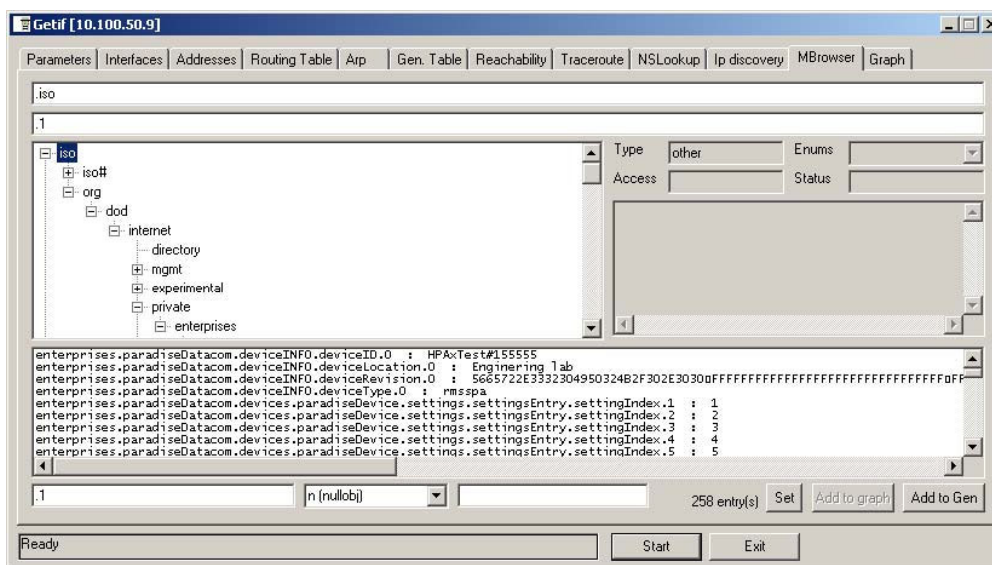

Figure 11: GetIf MBrowser Window, Assign settingValue.5 to a Value of '1'
6. See update data in output data box (Figure 11).